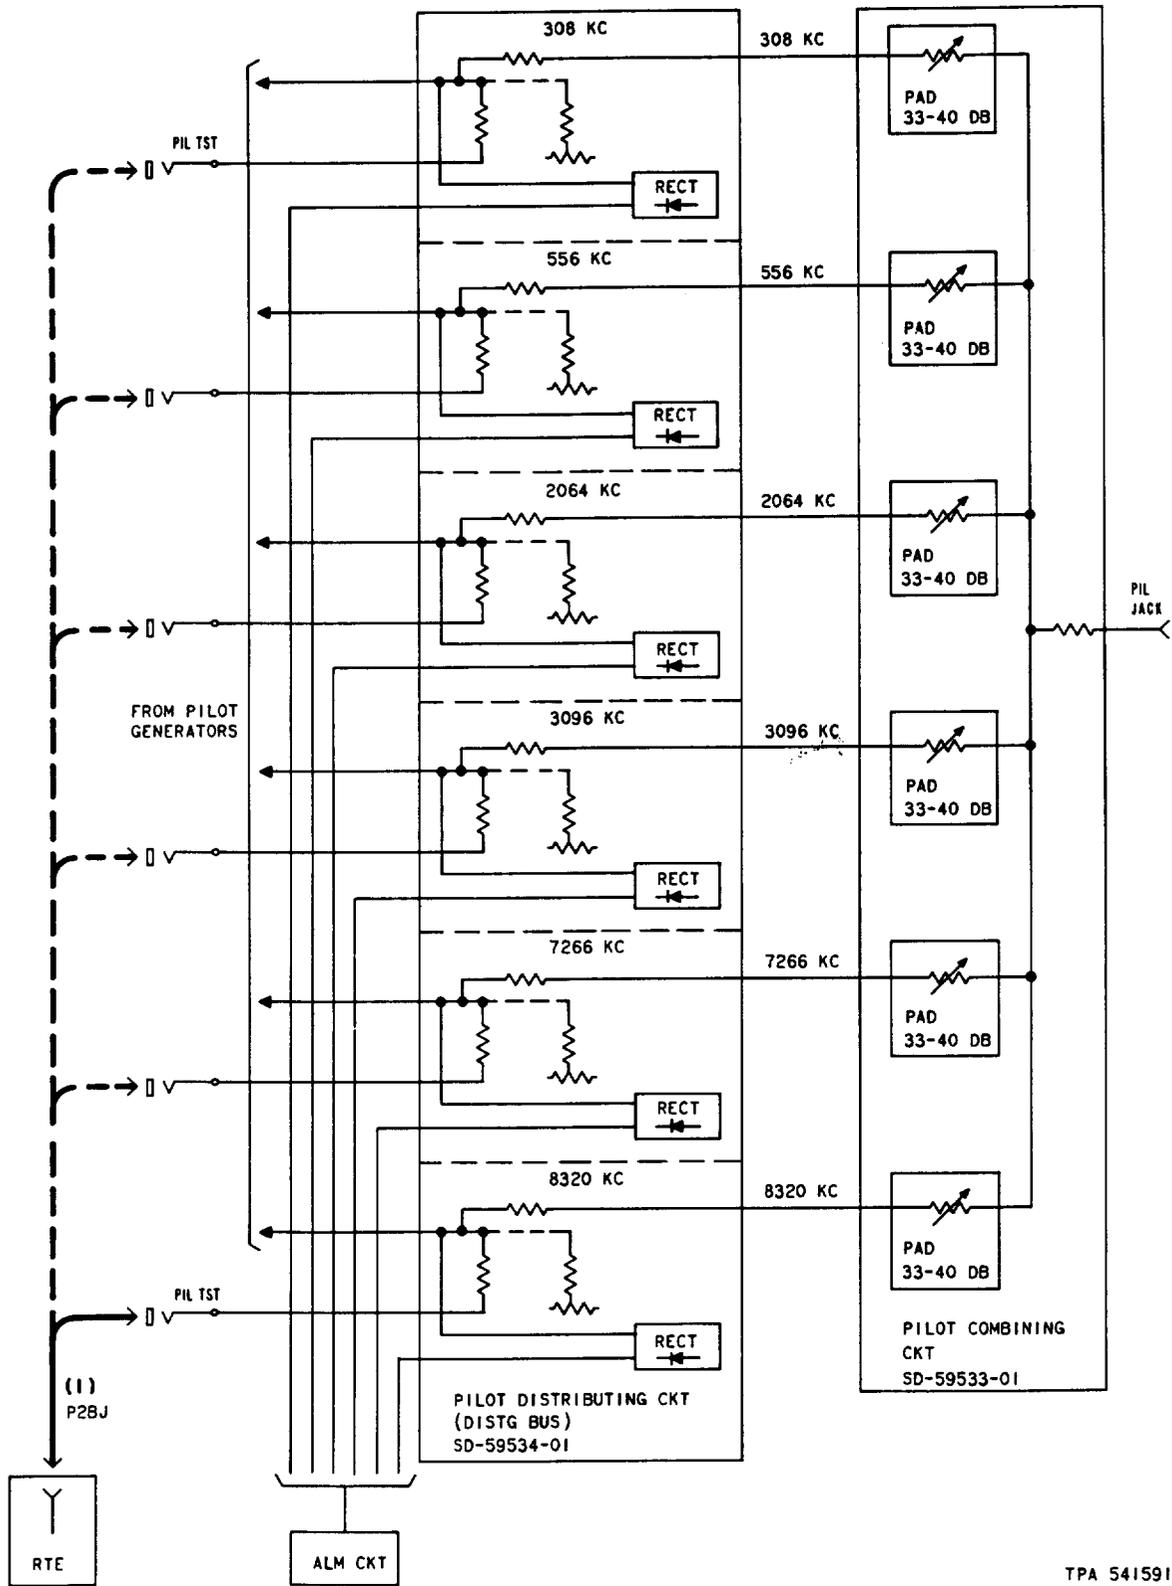

Fig. 1—Pilot Generator Circuits for Emergency Use Only—Measurement of Pilot Generator Output
<p>Note: These tests should normally be made with the equipment out of service. However, except for restrapping the amplifier output pad or the fixed pad, or for tube replacement, certain tests can be made on an in-service basis provided care is taken not to interrupt service.</p> <p>1 Prepare and calibrate receiving test equipment (RTE) for a 75-ohm terminated measurement of -32.8 dBm at the frequency under test (Fig. 1).</p> <p>2 Make patch (1), Fig. 1 for the frequency under test.</p> <p>3 Adjust the RTE for a peak reading and read the power output.</p> <p>Requirement: -32.8 dBm \pm0.1 dB</p>